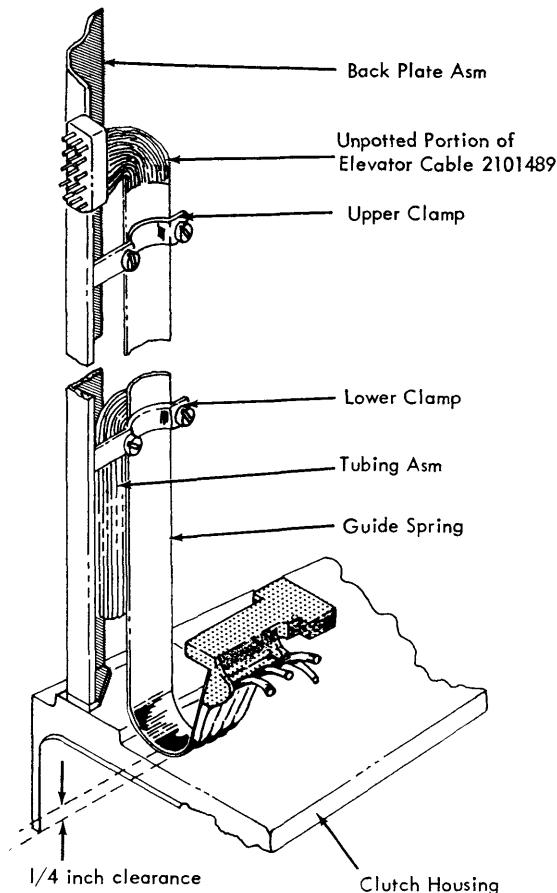

Figure 67. Elevator Cable
1. Install elevator cable (See Figure 67).